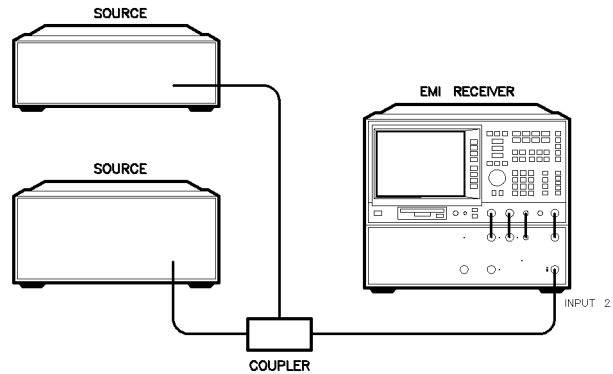

Figure 6-21. Set-Up for Obtaining Two Signals
1. Connect two signal generators to the input of the receiver as shown in Figure 6-21. Set one signal to 300 Mhz, 92 dB μ V (–15 dBm) and the other to 305 MHz, 27 dB μ V (–80 dBm). Increase the amplitude of the 305 MHz signal if it is masked by the noise level of the 300 MHz source.